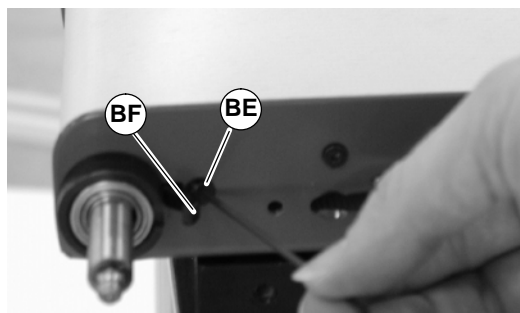

Figure 24
2. Loosen but do not remove screw (BE of Figure 24). Push until pulley retaining sleeve clip (BF) pushes out.